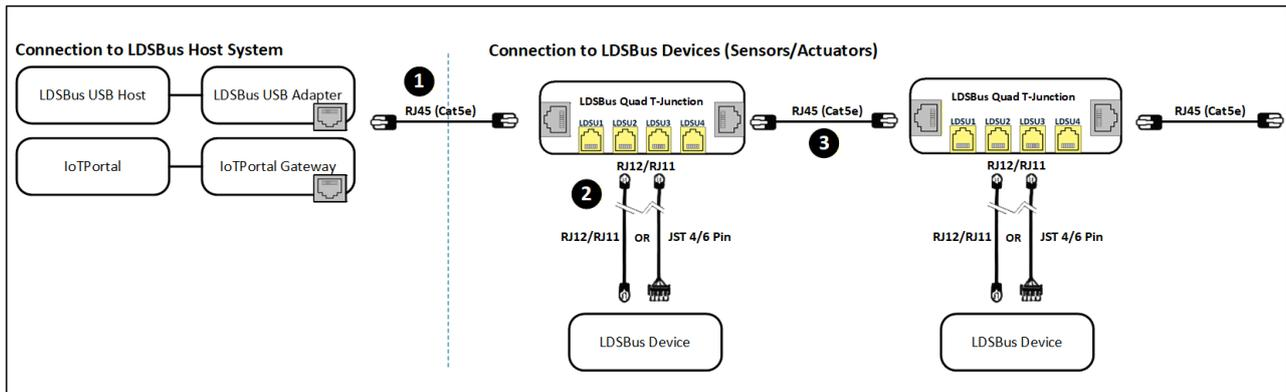

Figure 2 - Connection Diagram
Figure 2 illustrates the connection of the LDSBus pH Sensor Adapter (LDSBus Device) to the LDSBus. Please visit <https://brtsys.com/resources> to view the full device application, setup, and installation guides.
1. Connect the first LDSBus Quad T-Junction to any of the LDSBus Host Systems using the RJ45 (CAT5e) cable as show in Figure 2.
2. Connect the configured LDSBus pH Sensor adapter to the LDSBus Quad T-Junction as shown in Figure 2.
3. If there is more than one LDSBus Quad T-Junction, chain them together as shown in Figure 2.